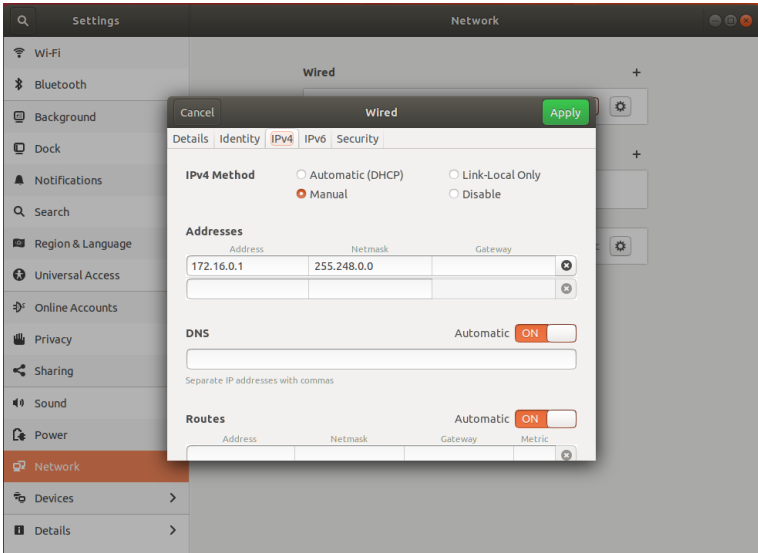

Fig. 4.11: Linux “IPv4 settings”
2. Click on the settings icon, select the IPv4 tab, configure and apply as in **Fig. 4.11**.